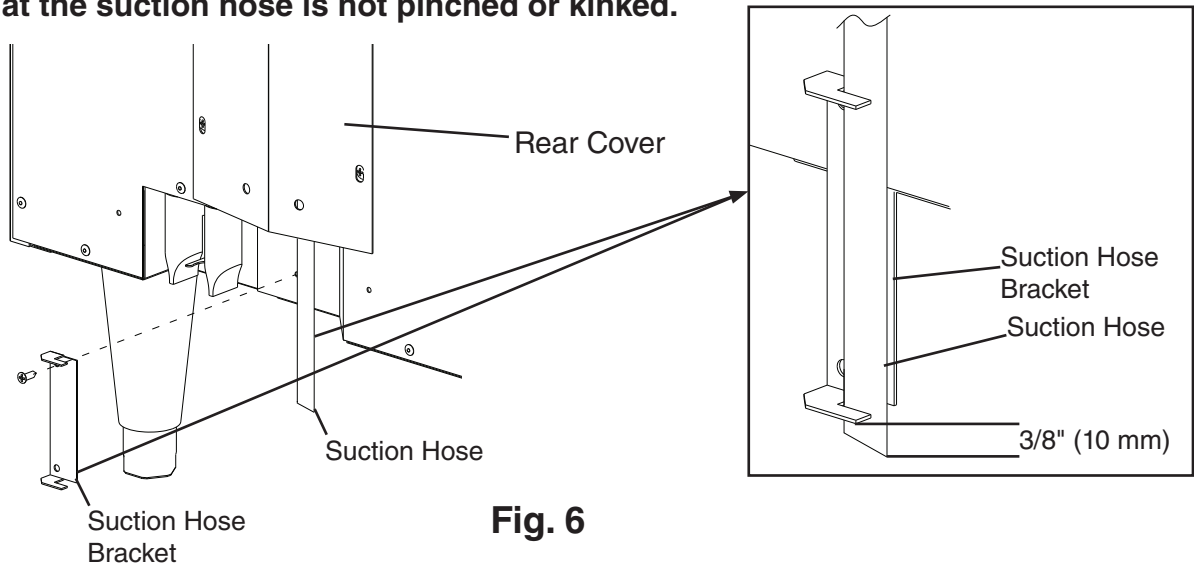

Fig. 6
- 6) Remove the suction hose bracket from the accessory bag. Using 1 screw provided in the accessory bag, attach the suction hose bracket to the rear of the appliance. Secure the suction hose using the suction hose bracket. See Fig. 6. **NOTICE! Confirm that the tip of the suction hose extends 3/8" (10 mm) below the suction hose bracket and that the suction hose is not pinched or kinked.**